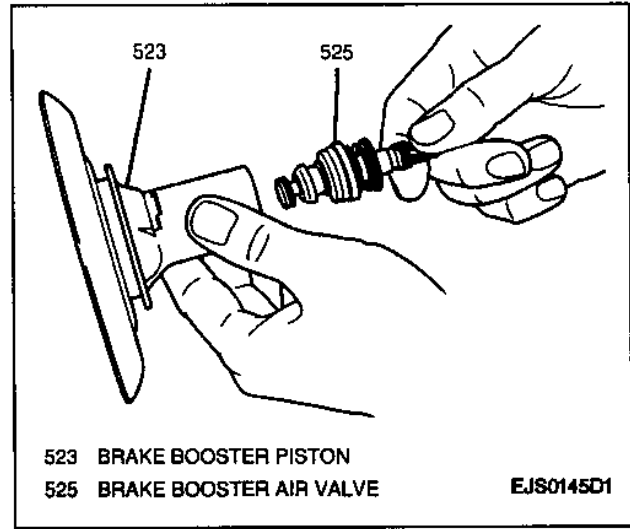

Figure 14—Removing Brake Booster Air Valve From Brake Booster Piston
13. Brake booster air valve from brake booster piston (Figure 14).